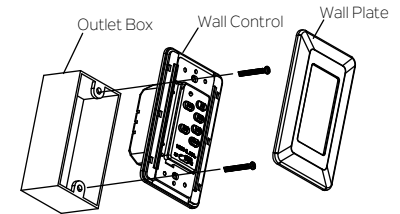

Fig. 20
Step 2. Use the screws provided to secure the wall control to the outlet box.(Fig. 20)